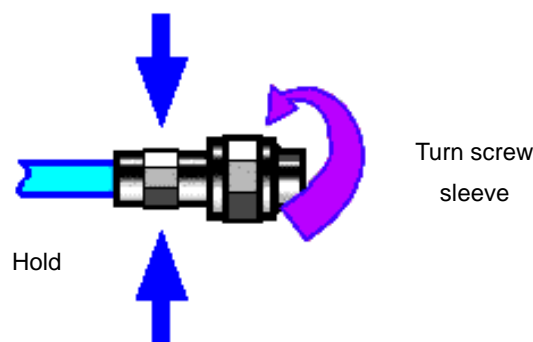

Figure 3.5 Connection method
**Step 2.** As shown in Figure 3.5, move the two connectors leveled together so that they can be smoothly engaged. Rotate the screw sleeve of the connector (note, not the rotating connector itself) until it is tightened, and there can be no relative rotational movement between the connectors during the connection.